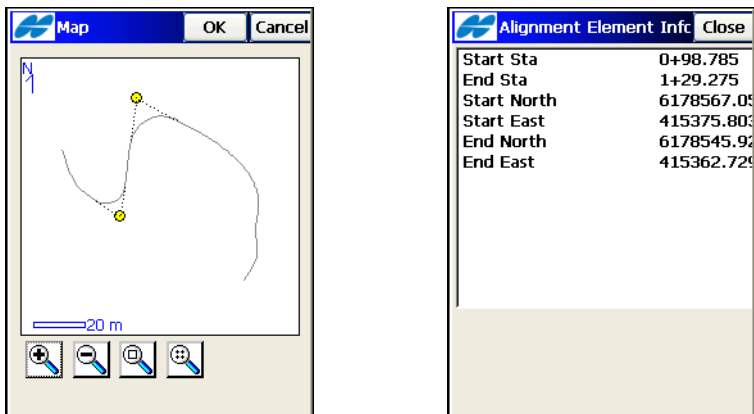

Figure 7-8. Information on Horizontal Alignment Element
- Also, the information on the selected element can display from the greater **Map** opened by double-tapping in the plot area. Select the alignment element and double-tap it to display detailed information (see Figure 7-8 on page 7-7).